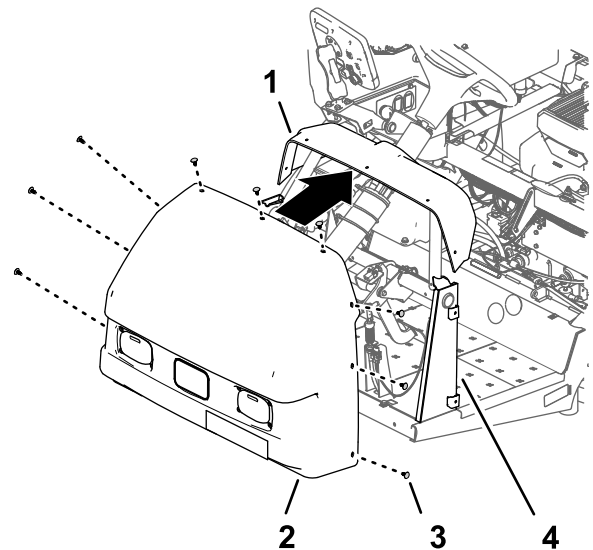

Figure 213
1. Align the hood holes in the hood with the holes in the dash panel and frame of the machine (Figure 213).
2. Secure the hood to the dash and frame with 9 push-in fastener (Figure 213).